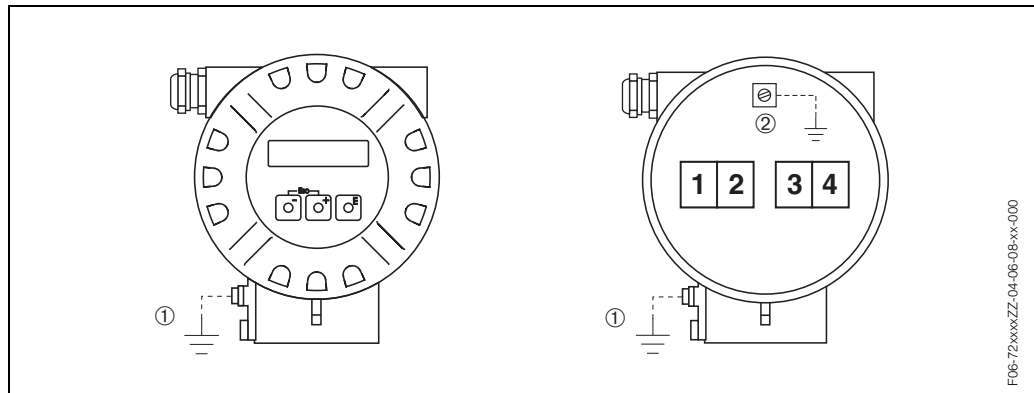

Fig. 1: Electrical connections Prowirl 72 resp. Prowirl 73
7. The flowmeter must be integrated into the potential equalisation system (see Fig. 1).